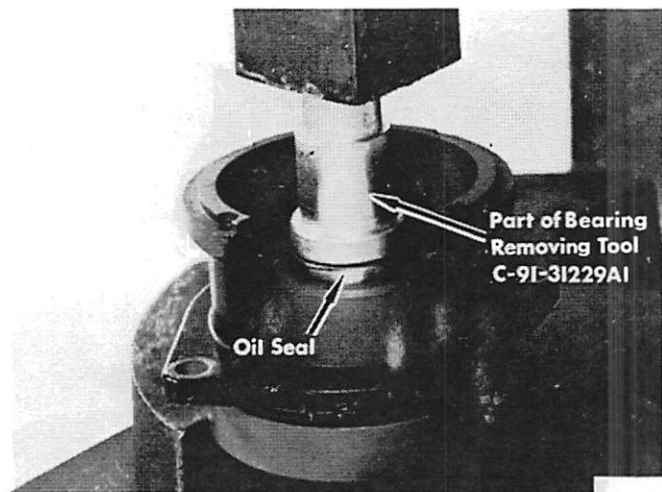

Figure 11. Installing End Cap Oil Seal
14. Install oil seal. (Figure 11)